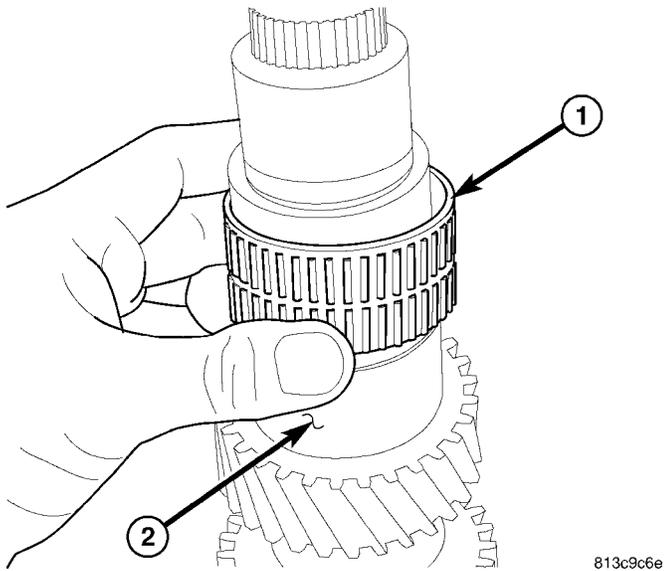

Fig. 58 SECOND GEAR BEARING
(2) Install second gear bearing (1) (Fig. 58) on mainshaft (2).